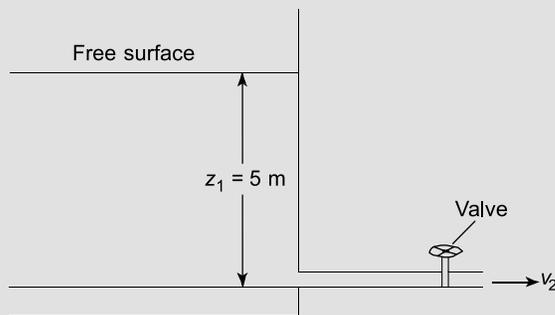

Figure 23.12
Problem 2. A storage tank contains oil whose free surface is 5 m above an outlet pipe, as shown in Figure 23.12. Determine the mass rate of flow at the exit of the outlet pipe, assuming that (a) losses at the pipe entry = $0.4 v^2$, and (b) losses at the valve = $0.25 v^2$.
- If in the storage tank of worked Problem 2 on page 268, Figure 23.12, $z_1 = 8$ m, determine the mass rate of flow from the outlet pipe.
- If in the storage tank of worked Problem 2, page 268, Figure 23.12, $z_1 = 10$ m, determine the mass rate of flow from the outlet pipe.